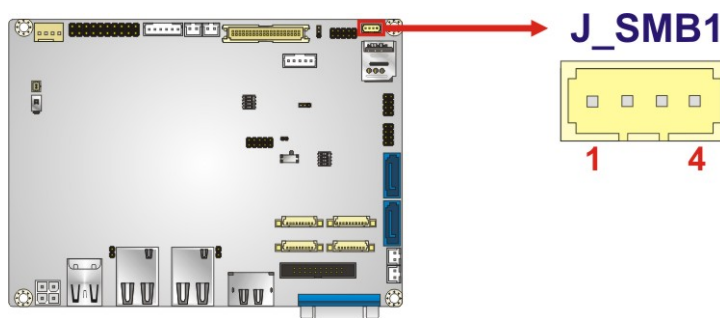

Figure 3-22: SMBus/I²C Connector Location
- CN Location:** See **Figure 3-22**